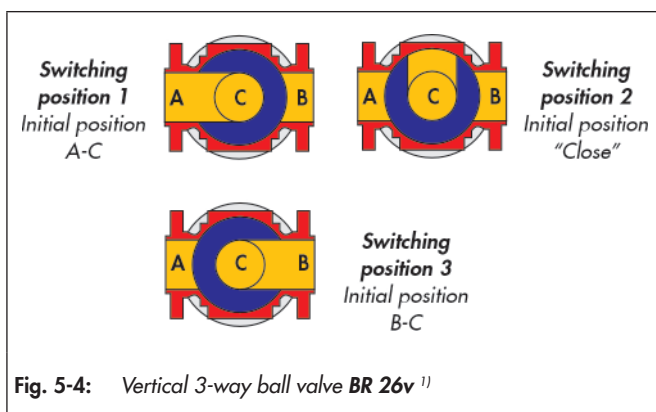
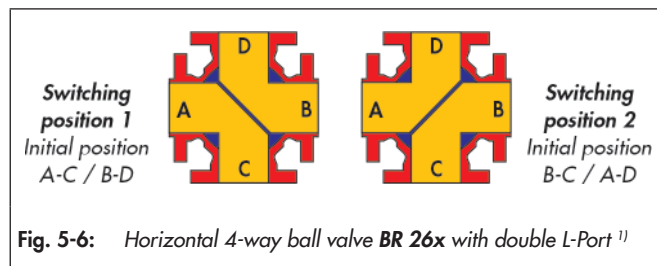

Fig. 5-4: Vertical 3-way ball valve BR 26v ¹⁾
Fig. 5-6: Horizontal 4-way ball valve BR 26x with double L-Port ¹⁾
- BR 26x, see Fig. 5-4 to Fig. 5-6
The multi-way ball valve ports designated A, B, C, D and/or E must be connected as shown in Fig. 5-1 to Fig. 5-6 in accordance with the intended switching positions in the pipeline.